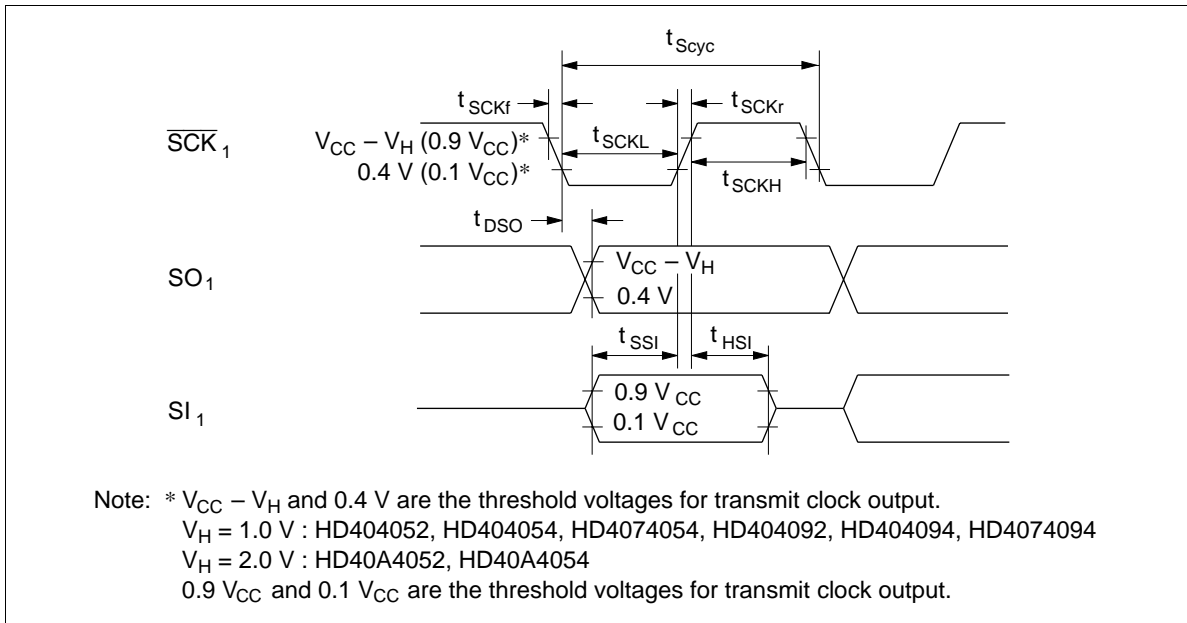

Figure 72 Serial Interface Timing
1. Refer to figure 72.
1. Refer to figure72.